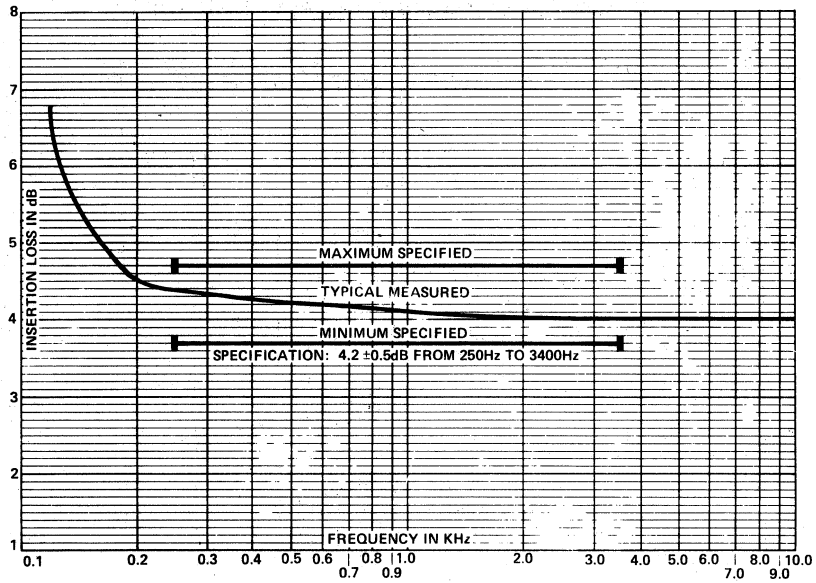
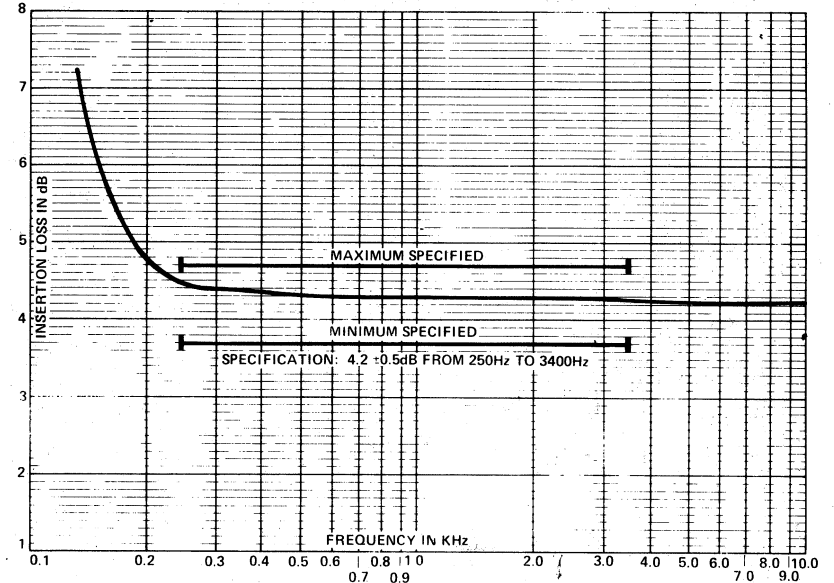
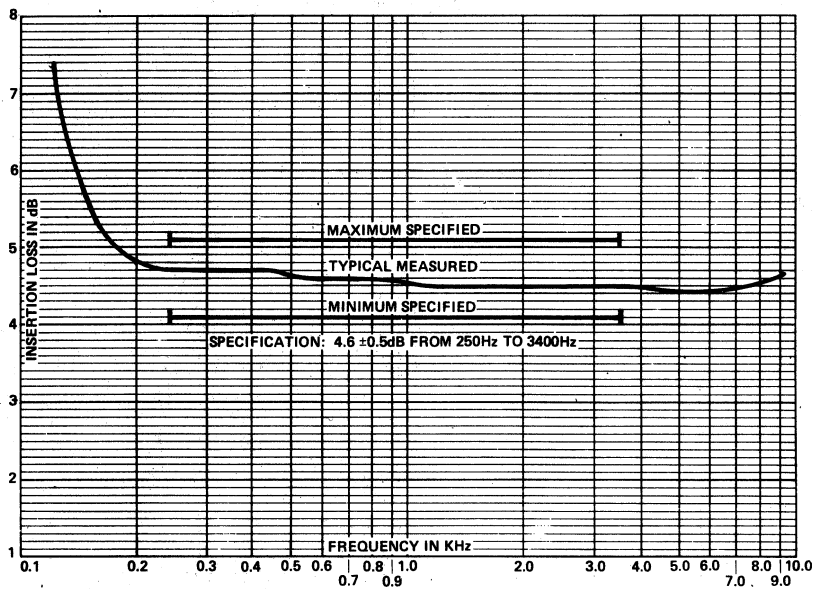

Figure 11. Hybrid Insertion Loss Specification for 6683
Figure 12. Hybrid Insertion Loss Specification for 6684
Figure 13. Hybrid Insertion Loss Specification for 6685 Arranged for 900-Ohm 2-Wire Impedance
- (f) HYBRID INSERTION LOSS: As specified graphically. Refer to Figure 11 for the 6683, to Figure 12 for the 6684, and to Figures 13 and 14 for the 6685.